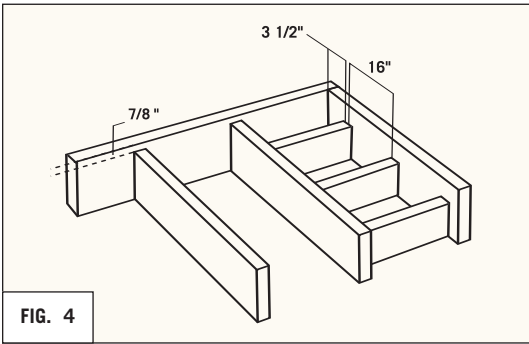

FIG. 4
- Add bracing and 2x4 lumber to the deck where the bullnose runs parallel to the joists. For dimensions **REFER TO FIG. 4, 5, 6**. The 2x4 must be level with the inner joists, and 7/8" lower than the outer joist.